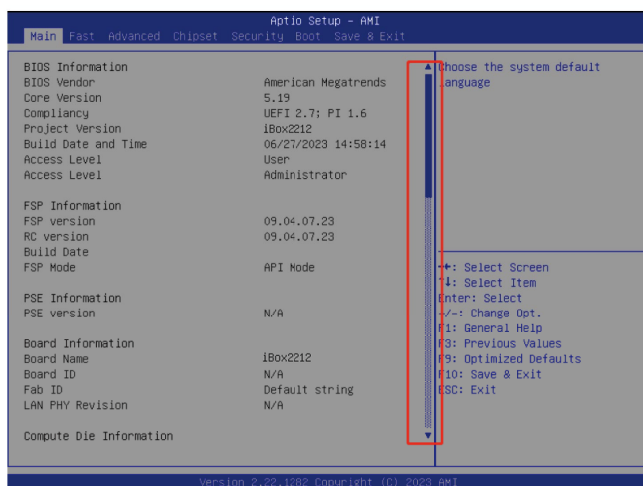

Figure 2-8-2
② Press CTRL + F1 to enter BIOS administrator mode. When the drop-down progress bar appears, it indicates success. Figure 2-8-2.